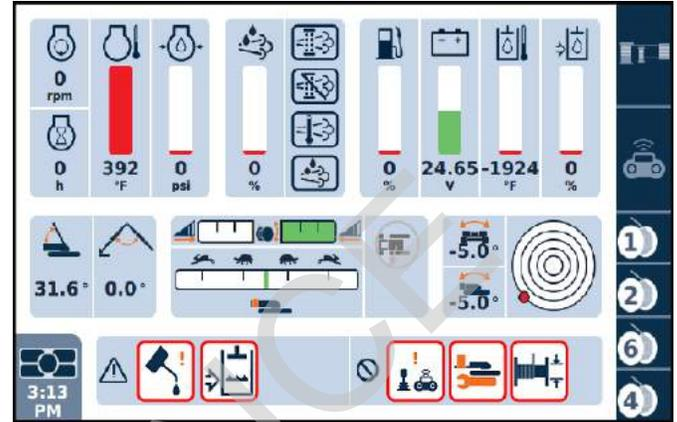

Figure 3-16. Working Screen
11. After the engine is started, the Working Screen shown in Figure 3-16 will appear in the Main Display.